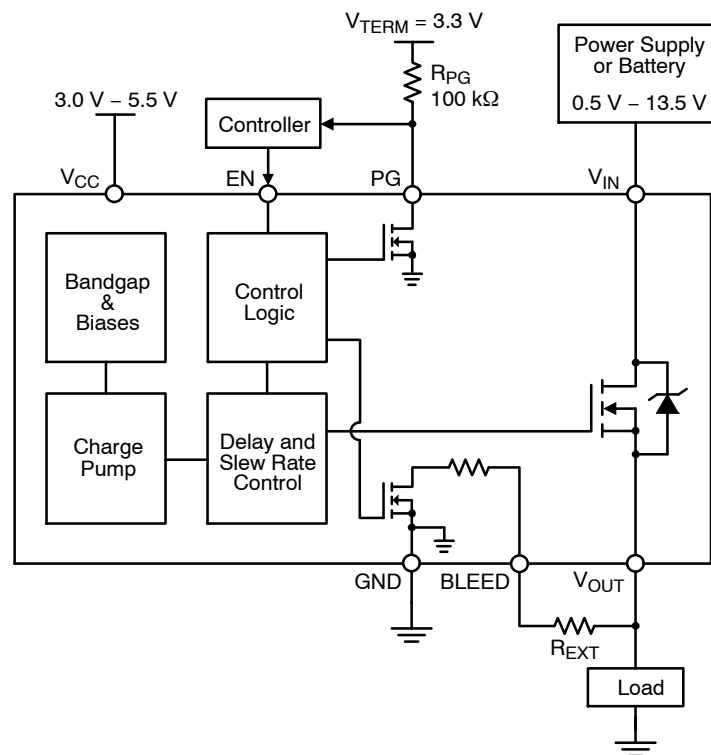
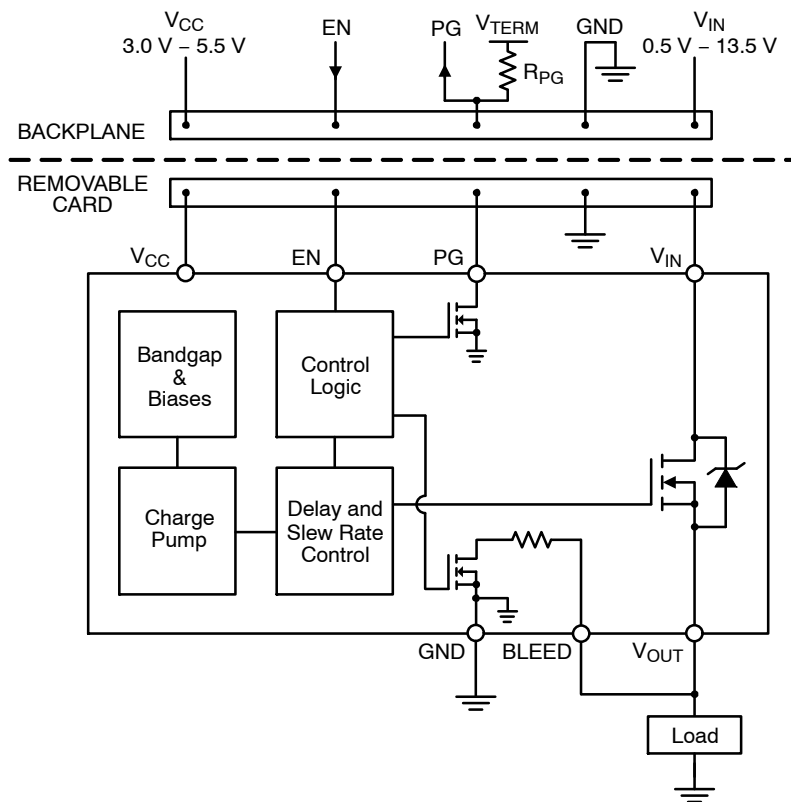

Figure 28. NCP45524 Typical Application Diagram – Load Switch
Figure 29. NCP45524 Typical Application Diagram – Hot Swap
It is required that the BLEED pin be connected to V_{OUT} either directly (as shown in Figures 29 and 32) or through an external resistor, R_{EXT} (as shown in Figures 28 and 31). R_{EXT} should not exceed 100 M Ω and can be used to increase the total bleed resistance and decrease the load bleed rate.
The NCP45524 devices have a power good output (PG) that can be used to indicate when the gate of the MOSFET is fully charged. The PG pin is an active-high, open-drain output that requires an external pull up resistor, R_{PG} , greater than or equal to 1 k Ω to an external voltage source, V_{TERM} , that is compatible with input levels of all devices connected to this pin (as shown in Figures 28 and 29).